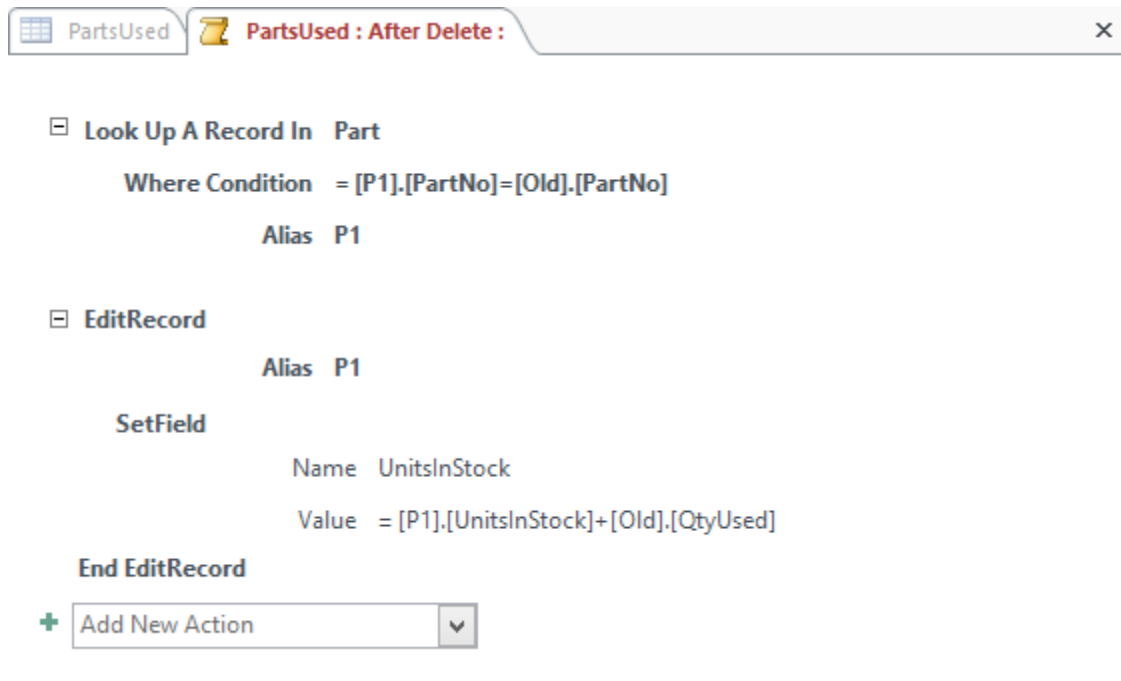

Figure 56: Final *After Delete* Data Macro
6. View the Final *After Delete* Macro: Compare your macro to Figure 56 to ensure that your macro has been correctly specified. Make sure that the *EditRecord* and *SetField* actions are nested the same as shown in Figure 56.